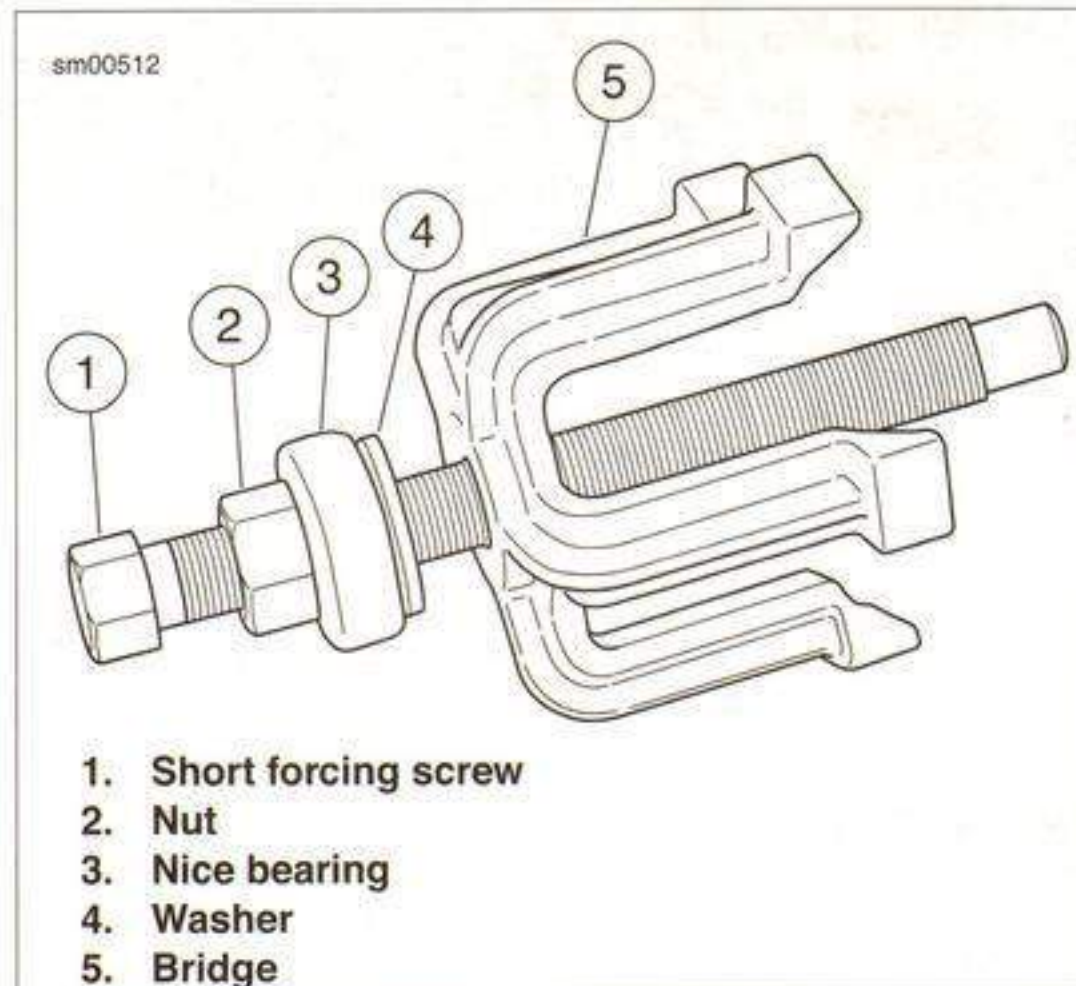
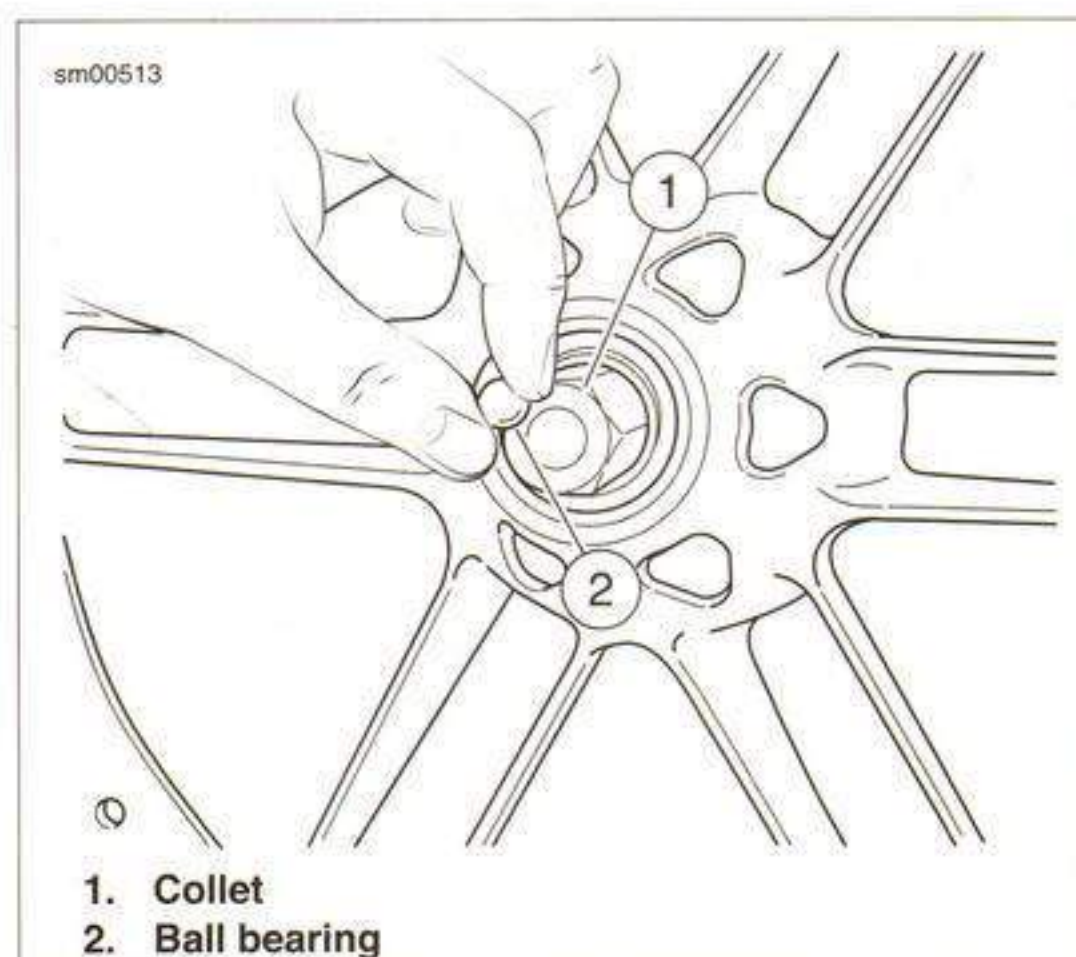
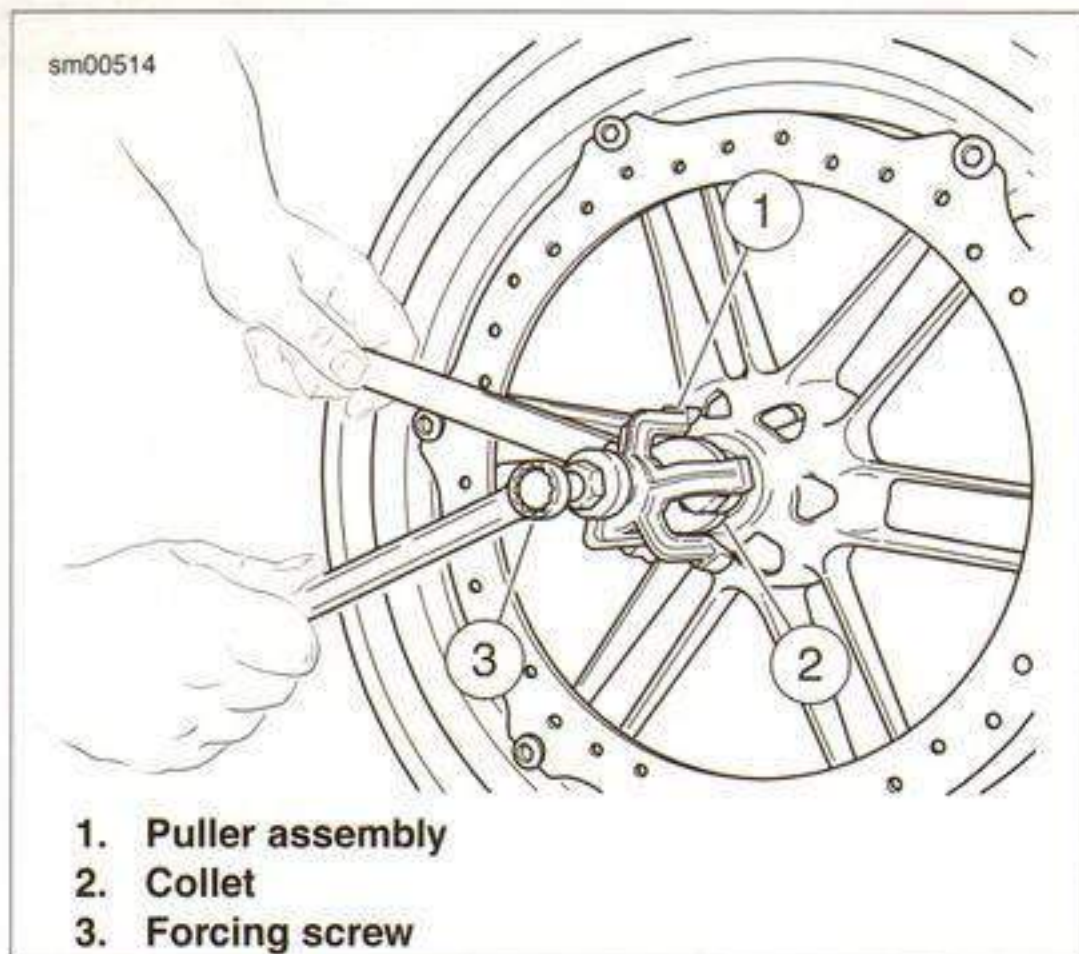
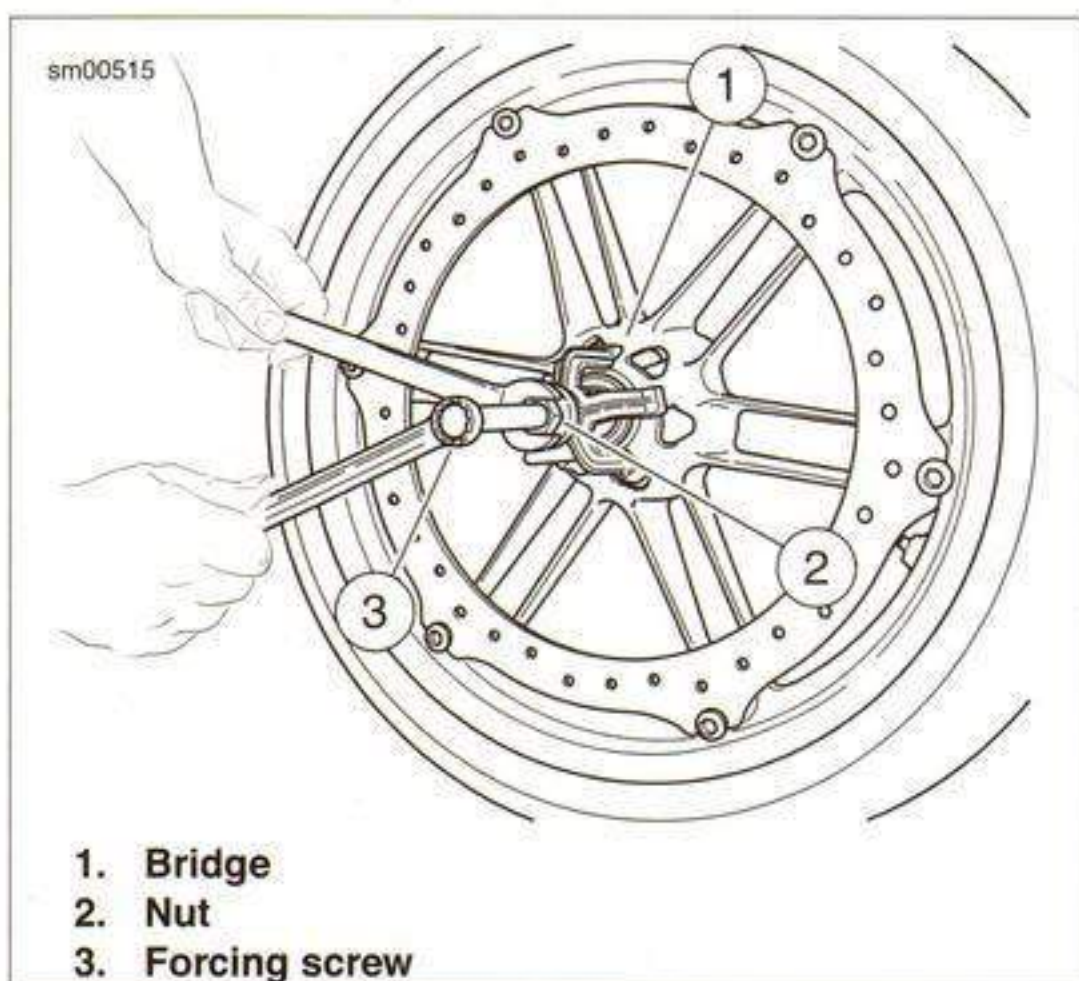

Figure 2-38. Assemble Puller
Figure 2-39. Install Collet and Ball Bearing
Figure 2-40. Expand the Collet
Figure 2-41. Remove the Bearing
1. See Figure 2-38. Assemble the short forcing screw (1), nut (2), Nice bearing (3), washer (4) and bridge (5) from the WHEEL BEARING INSTALLER AND REMOVER (Part No. HD-44060-A).
2. Sparingly apply EXTREME PRESSURE LUBRICANT (Part No. J-23444-A) to the threads of the short forcing screw (1) to prolong service life and verify smooth operation.
3. See Figure 2-39. Insert the FRONT WHEEL BEARING REMOVER COLLET (Part No. B-43993-7) (from kit Part No. B-43993-50A) into the wheel bearing until it fully seats against the bearing.
4. Insert the ball bearing (2) into the collet (1).
5. See Figure 2-40. Thread the puller assembly (1) into the collet (2).
6. Hold the collet (2), and turn the forcing screw (3) to expand the collet.
7. See Figure 2-41. Place the bridge (1) against the wheel hub.
8. Hold the forcing screw (3), and turn the nut (2) clockwise until the bearing is free of the hub.